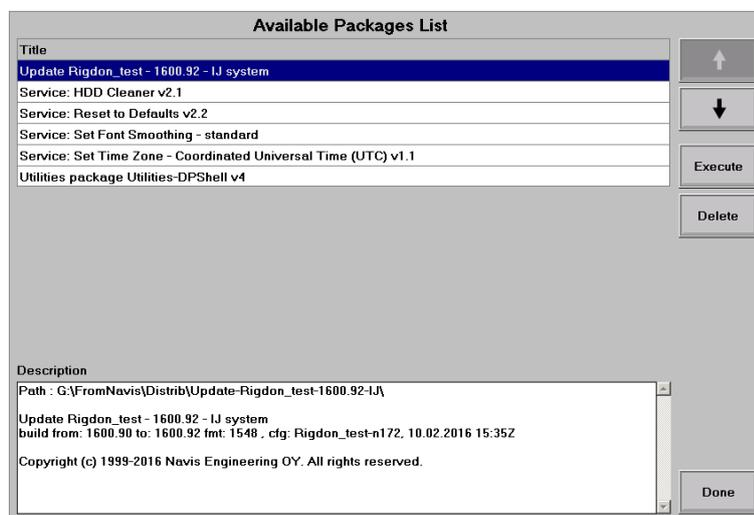

Figure G.8: DPS
All registered SW updates are logged in the **DPS**hell utility (see Figure G.8). All necessary information about the updates is available in “Update & Service” menu item, in the “Description” window.
- wait for “Available updates List” window will appear (see Figure G.8). This operation may take up to several minutes;